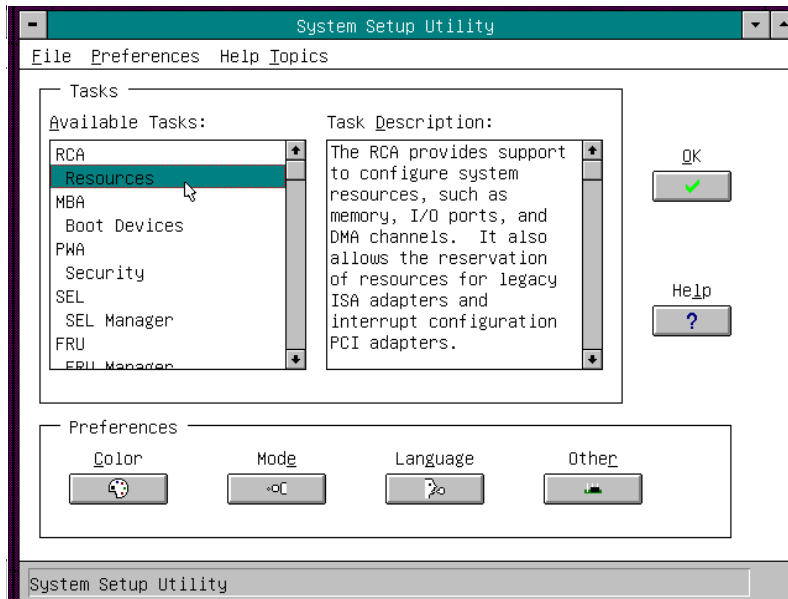

Figure 30: SSU Main Window
When the main window of the SSU appears (Figure 30), you can customize the user interface (UI) before continuing. See “Customizing the SSU” on page 109.